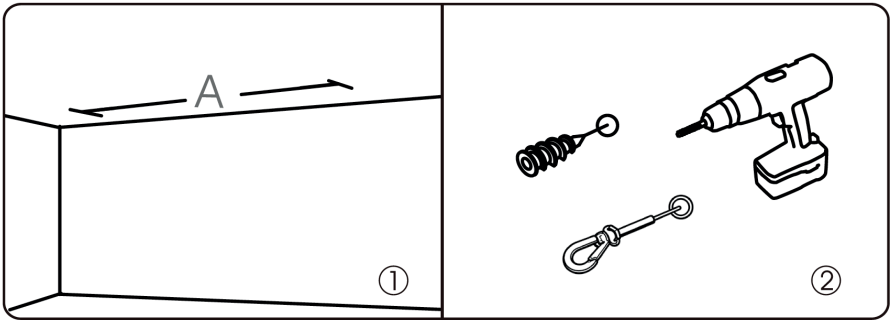

Fig. 13
1. For suspended mounting of the screen, obtain lockable screw carabiners and, if necessary, wall plugs that are suitable for your ceiling structure. If you are unsure, seek expert advice, e.g. at a DIY store. Attach the carabiners to your ceiling correctly and ensure that they are installed parallel to the wall behind them. (Fig. 13)